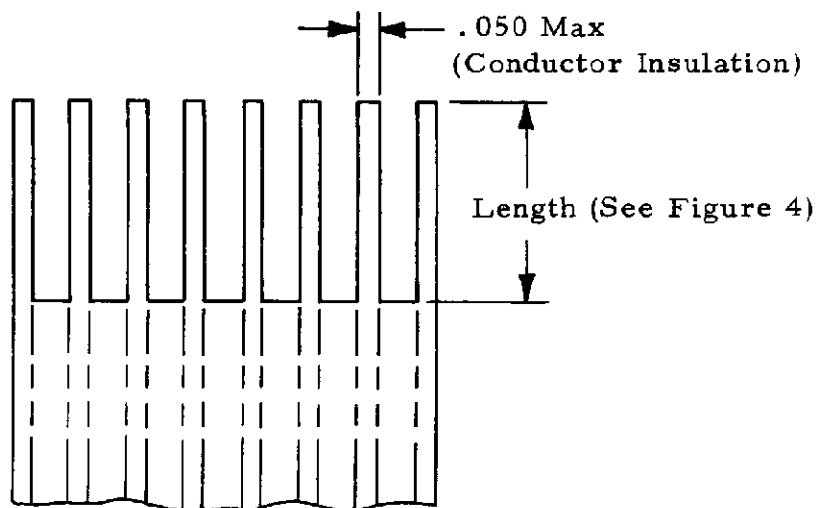

Figure 3
- (3) Care shall be taken not to cut the individual conductor insulation during the cable slitting operation.
- (4) When using .100 centerline cable, the interconnecting web between conductors shall be removed as shown in Figure 3.